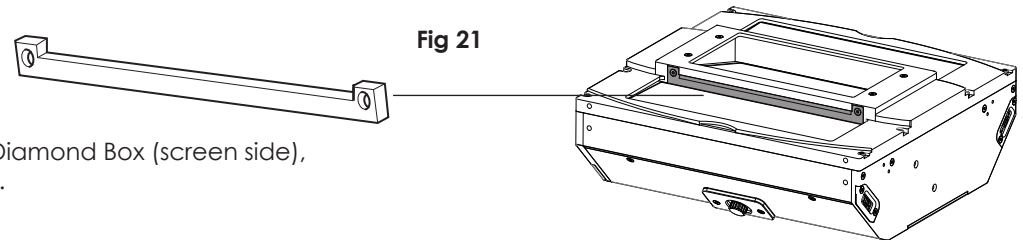

Fig 21
- Dismantle the mask located under the central window of the SmartCrystal™ Diamond Box (screen side), in purple in figure 21. The two screws located on each side must be unscrewed.